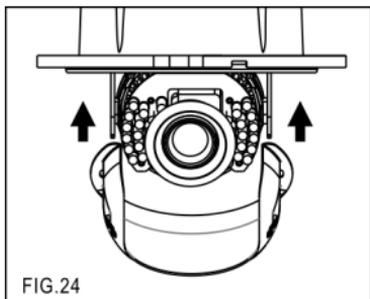

FIG.24
7. Put on the inner cover (FIG.24). Replace the top cover and tighten the screws (FIG.25).